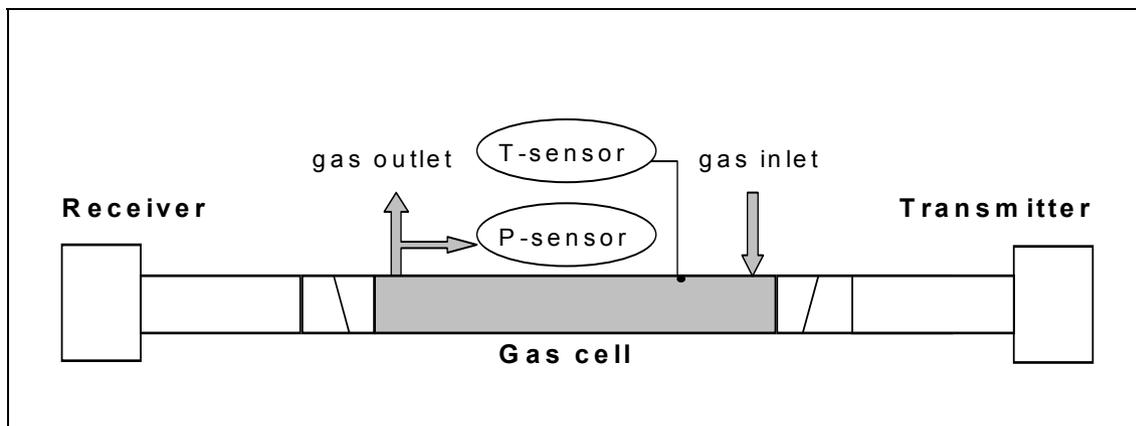

Figure 5-1: Calibration cell with monitor connected
2. Connect the transmitter and receiver units to the test cell as shown in Figure 5-1. Run the service program (ref. Section 4.1 for start-up).